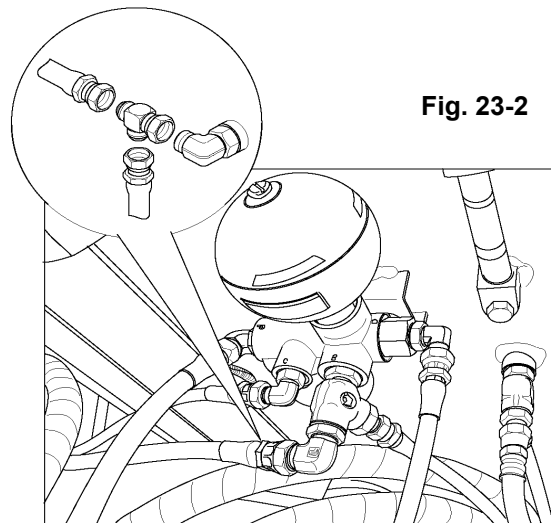

Fig. 23-2
7. Route a hose from the Mounting Subplate port P to the pilot pressure system. Refer to the excavator's OEM hydraulic system diagram for connection points. **Figure 23-2** provides an example of one method of tying into the pilot pressure system. Newer excavator's may provide auxillary ports for connections from aftermarket attachments. Contact your excavator dealer's service department if you need additional guidance.